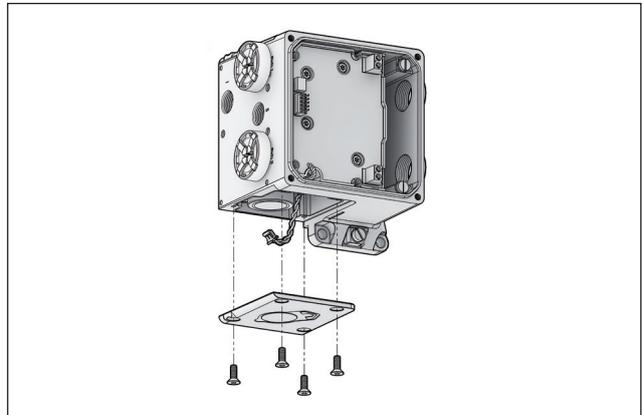

Fig. 110. NDX_510_
- Loosen the prestage cover screws and remove the prestage cover (Fig 110, applies to NDX1510_ only)